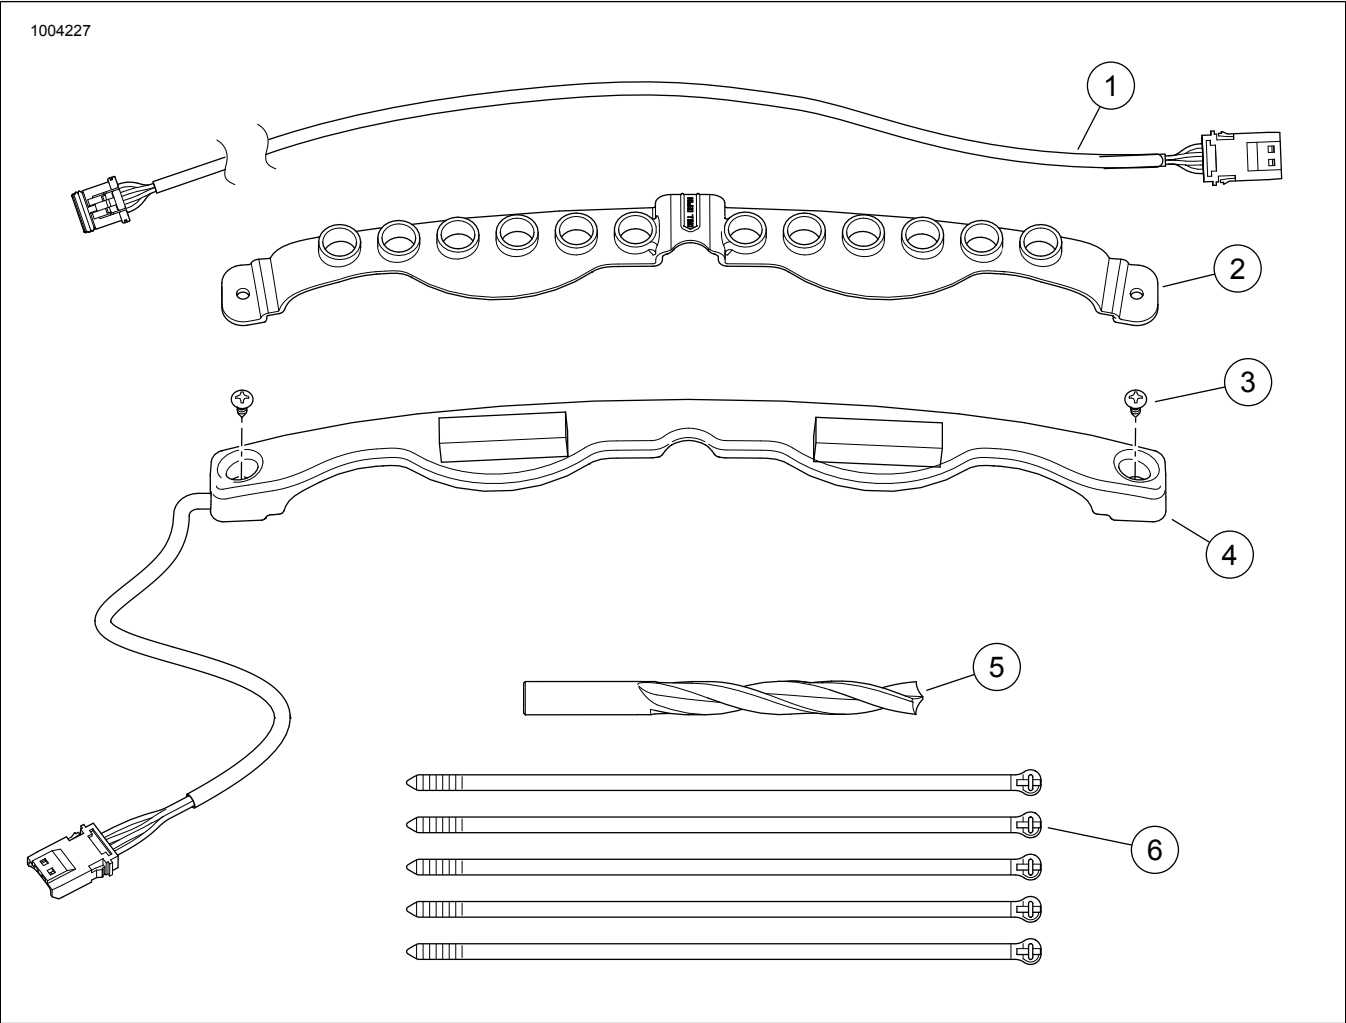

Figure 7. Service Parts, Spectra Glo Light Vent Illumination Kit
See Figure 7. and Table 1.
3. See Figure 7. Secure drill template onto fairing vent with two #4 screws (3).
See Figure 7. Connect and route 48-in. harness (1) from LED R/G/B controller through the wire trough and up the back bone.